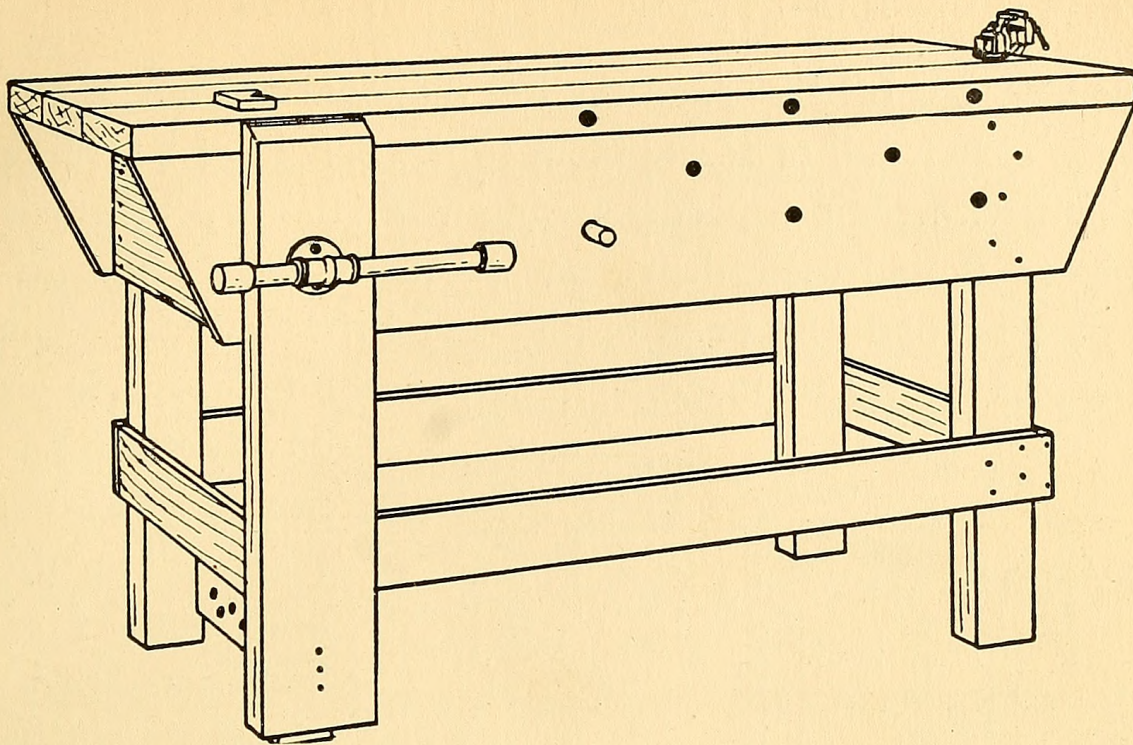

FIG. 1. — A Solid Work Bench.
Figure 1 shows
bench by fitting pieces of 10-inch board between the aprons, as shown in Fig. 1.
this case it becomes necessary to set the socket into an extra block of wood (Fig. 5) and to spike this block to the back of the leg; otherwise, the jaw would not close entirely. Trim off the top of the jaw even with the bench top and bevel the outer edge (Figs. 1 and 4), then remove the temporary nails. Cut a peg to fit in the holes in the sliding strip, and whenever you use the vise, stick this peg into the proper hole to keep the bottom of the jaw from pushing in farther than the upper portion; the jaw must be kept vertical in order to make it grip a piece of wood squarely.
Bore several rows of  $\frac{3}{4}$ -inch holes through the front apron, as shown in Fig. 1, and cut a peg to fit in them. This peg may be adjusted to support the end of any length of board placed in the vise.
**An Iron Vise** for metal work; one of these can be purchased for from 50 cents to \$1 and may be screwed to the right end of your bench (Figs. 1 and 6).